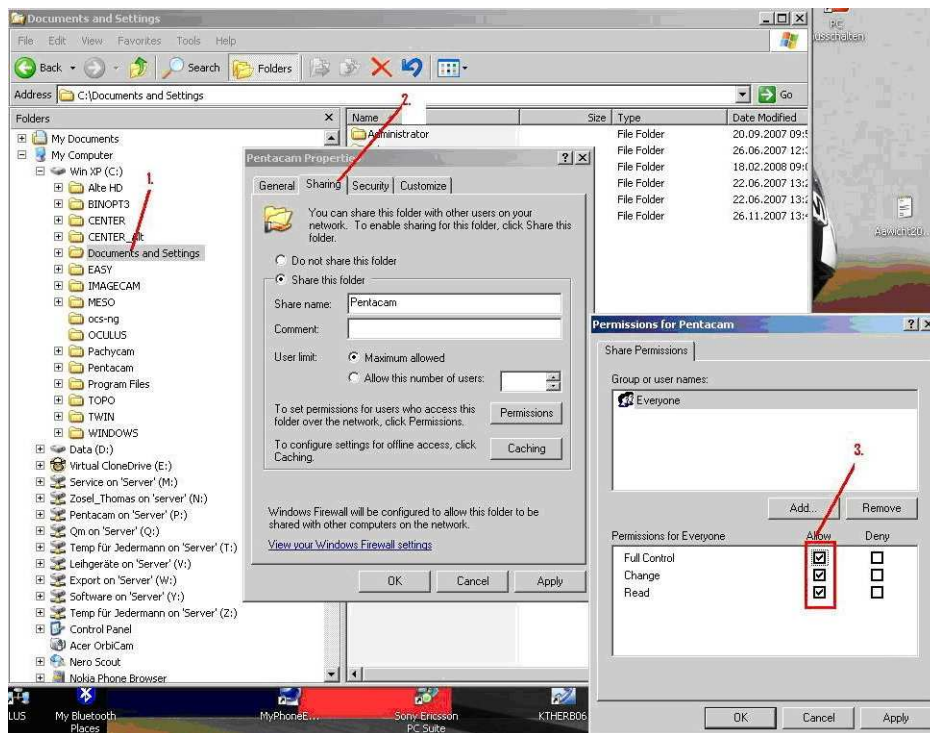

Figure 27, Administration rights
- Approve rights in the current directory, please refer to **Figure 27**.